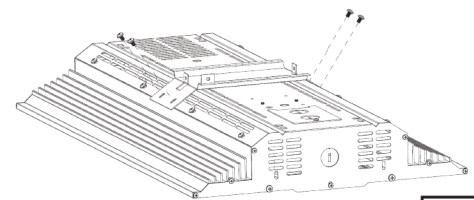

Fig. 3
Attach the base bracket onto the fixture by inserting four (4) M4 screws, as shown in **Fig. 3**.